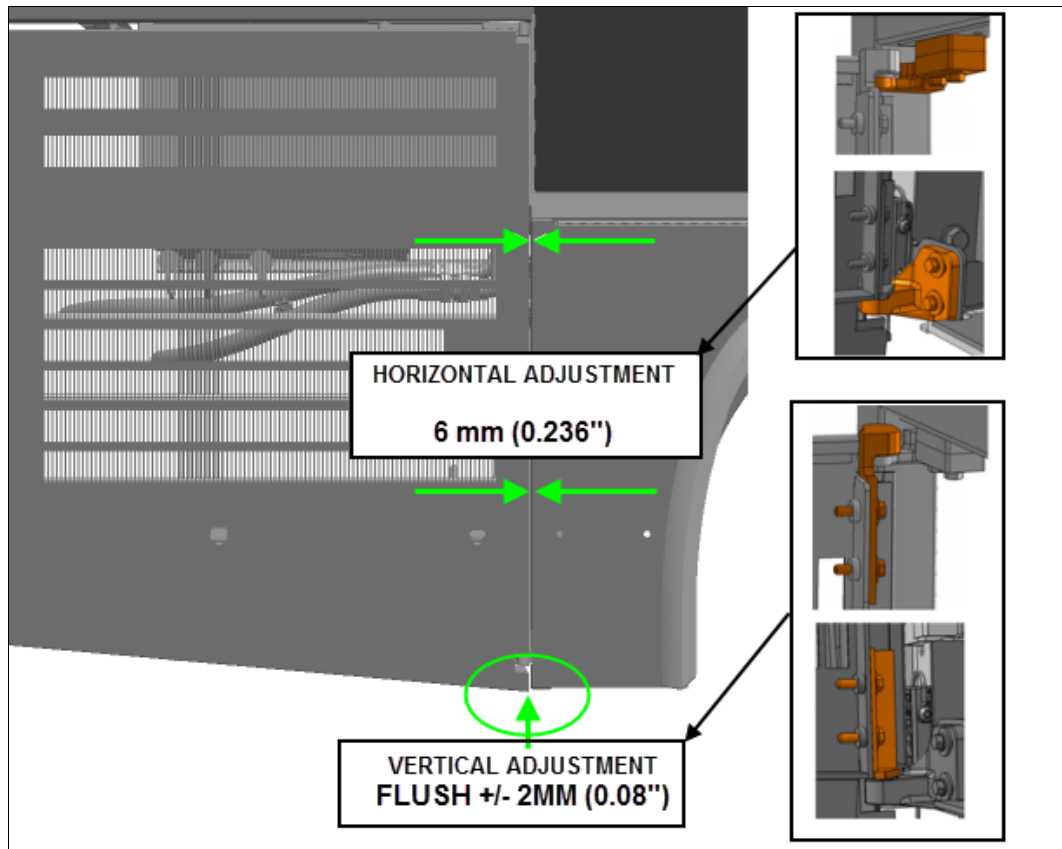

FIG.8 RADIATOR DOOR HORIZONTAL & VERTICAL GAPS
5. Remove door support installed at step 2 and open and close the door several times to make sure it is working properly, check door bottom and side adjustments. Bottom of the door should fit flush with the bottom of the fender (+/- 2mm) and there should be a 0.236" (6 mm) gap between the door and the vehicle rear fender (Fig.8).